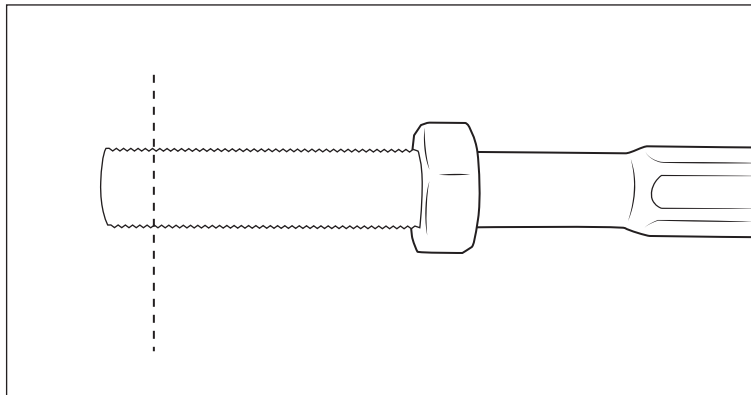

Figure 16
- B. If reusing factory outer tie rod ends, the inner tie rod ends will need to be trimmed slightly to allow correct toe in. Carefully trim 1/4" off threaded end of inner tie rod (fig. 16) Clean and deburr end of threads and reinstall factory outer tie rod ends. Snug jam nuts into place, they do not need to be fully torqued because vehicle will need front end alignment.